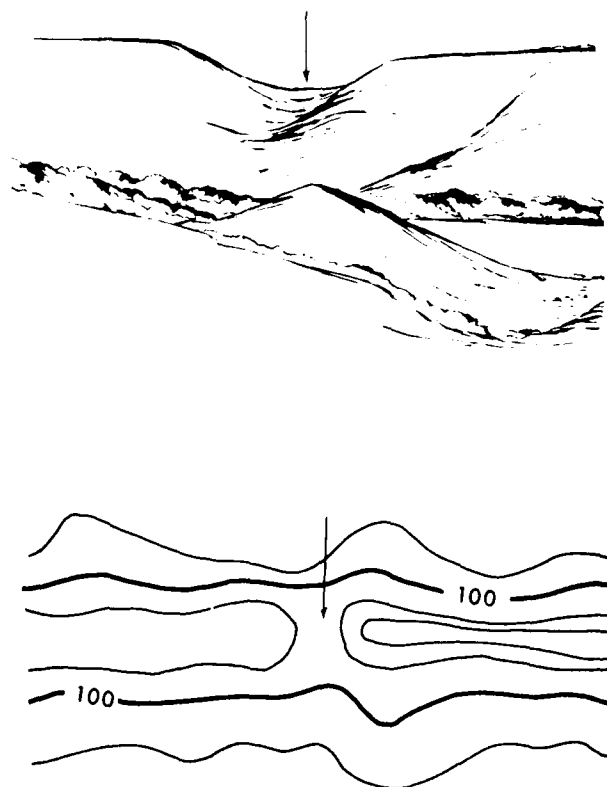

Figure 15-14.—Saddle.
6. **SADDLE:** A saddle is a dip or low point along the crest of a ridge. A saddle is not necessarily the lower ground between two hilltops; it may be simply a dip or break along an otherwise level ridge crest (fig. 15-14).